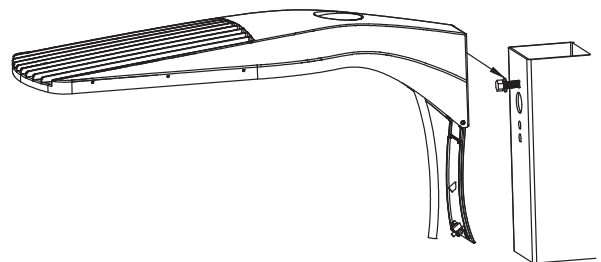

Fig 6
Guide the pulled-out wires through the interior of the square pole (ensure wires are not pinched or damaged).(Fig 6)
- 2.Fully tighten both 3/8" screws with the 3/8" socket wrench to fix the fixture to the pole.(Fig 6)